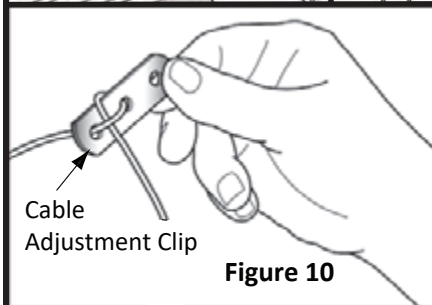

Figure 10
Step 7: Your door will be supplied with (4 or 6) cables. The longer cables are the Lifting Cables and the shorter cables are the Safety Retention Cables. Install one of the Safety Retention (shorter) Cables as shown in Figure 10 (right side). For two springs, install two Safety Retention Cables.